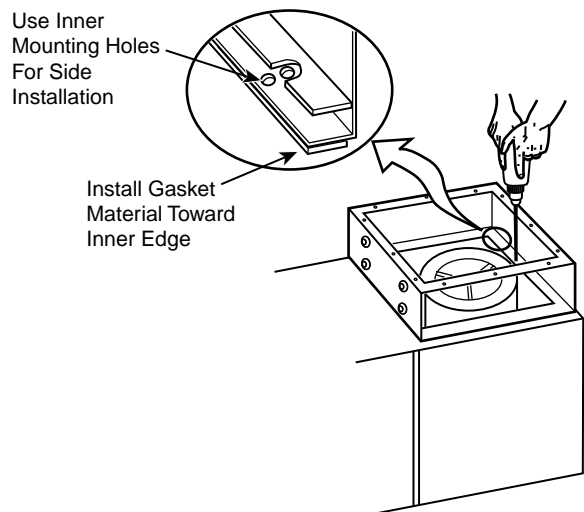

Figure 6. Side Installation Details
4. Install the self-adhesive gasket material onto the flange of the discharge-air side of the cabinet. This flange has double holes (see Fig. 6).